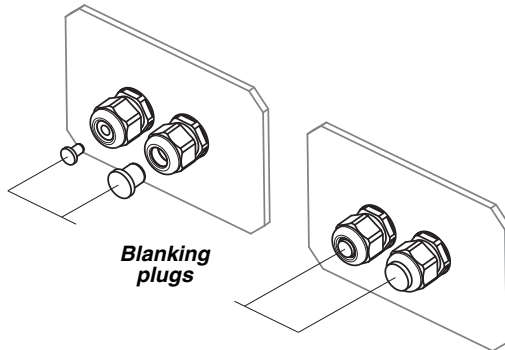

Figure 6: Cable gland blanking plugs
1. See Figure 6. Check that you have the correctly-sized blanking plug for the gland you need to seal (the correct blanking plug is a sliding fit in the gland when the compression nut **F** is loosened).